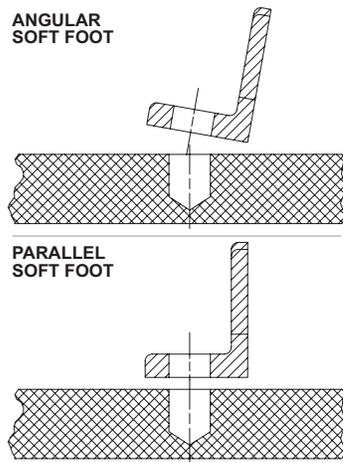

Figure 3-4 – Illustrations of Soft Foot
2. Check each foot for gaps between the foot and base (soft foot). Shim as necessary to fill the gap within 0.002 in. (0.05 mm). Figure 3-4 shows the two most common types of soft foot conditions. If either type is present at a measurement of more than 0.003 in. (0.076 mm), the pump may fail prematurely.